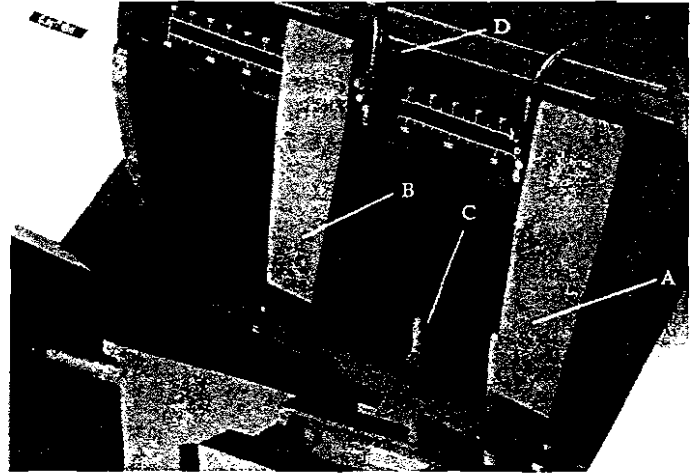

FIG.4
The blade guides should be set as close to the vise jaws as possible. The right blade guide bracket (A) Fig.4, is not adjustable and is set at the factory to clear the right hand vise jaw. The left blade guide bracket (B) can be moved to the left or right depending on the position of the left hand vise jaw (C). To move the left blade guide bracket (B), loosen hand knob (D), position blade guide bracket (B) and tighten hand knob (D). (Note: when operating 1018T, the right blade guide bracket (A) can be moved as well especially when cutting in 90° to make sure the bracket be moved as close to the vise jaw as possible.